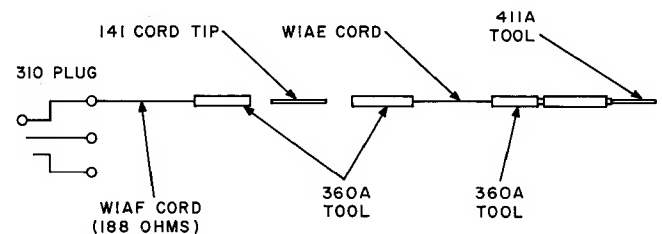

Fig. 1
2.10 Testing cords, required with certain type selector repeater trunks, assembled locally (Fig. 1) as follows:
3.35 Certain incoming trunks from selector repeaters in a branch office are arranged so that the trunk may be released by applying battery to the tip of the incoming selector test jack. For incoming selectors other than digit-absorbing selectors, such as SD-32183-01, ground the sleeve of the selector with a 477A tool; raise the shaft to operate the off-normal springs; and using the cords assembled as shown in Fig. 1, apply battery with the 411A tool to the tip of the selector test jack for 2 to 5 seconds. If the permanent cannot be released in this manner, it may be an indication of trunk cable trouble.
3.36 For digit-absorbing incoming selectors, such as SD-32183-01, ground the sleeve of the selector with a 477A tool; manually hold operated the D relay; and using cords assembled as shown in Fig. 1, apply battery with a 411A tool to the tip of the selector jack for 2 to 5 seconds. If the permanent cannot be released in this manner, it may be an indication of trunk cable trouble.